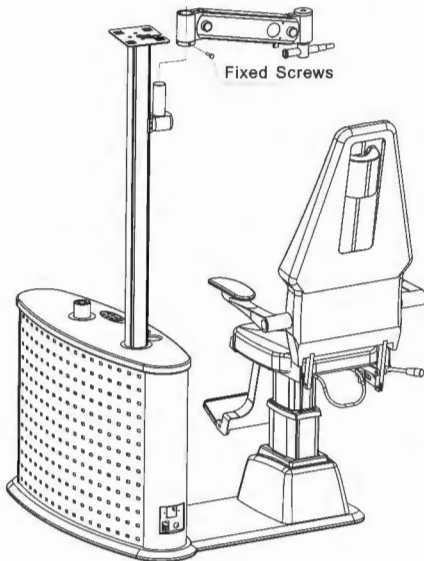

Figure.4
- 7) Assemble the phoropter arm on the arm support and fix it with screws. (Attention: 1. The limit situation of arm rotation; 2. Make sure the cover of arm and fixed parts be tightly locked) (See figure.4)